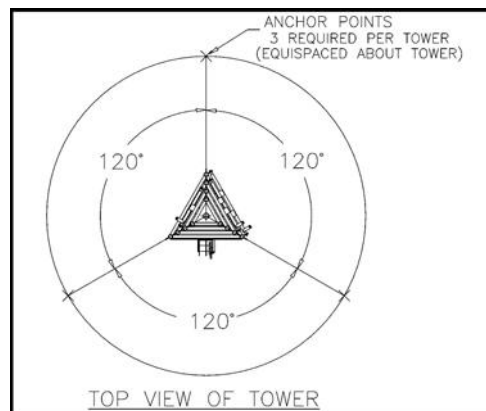
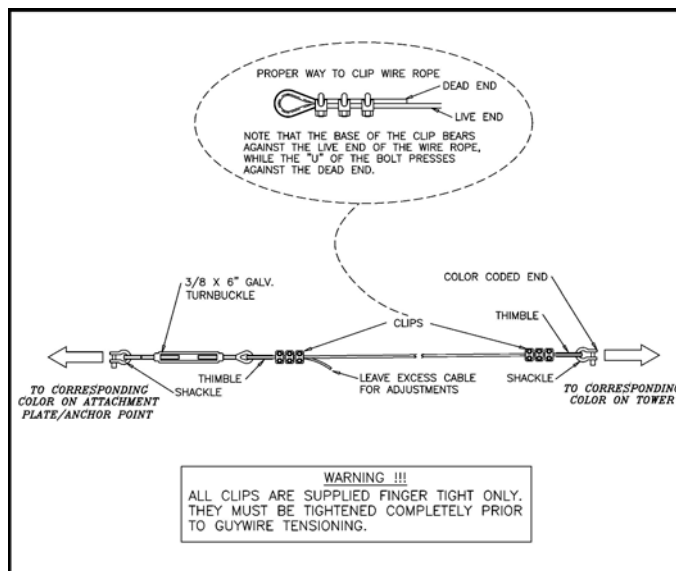

Fig. 4 Standard Guy Wire Anchor Points
Fig. 6 Proper Guy Wire Configuration
1. Locate the Trailer/Tower unit in a place that will allow the following radius around the tower: 70 foot radius for the T-100H & T-100UGH towers; 60 foot radius for T-85UGH tower; 55 foot radius for the T-75H tower; and a 40 foot radius for the T-50H tower. Mark the location (120 degrees apart) of each anchor point (*see Fig. 4*). Refer to the enclosed appropriate guy wire drawing specifications for your specific model. As an alternate, the Model GA-1 or GA-2 helical screw type guy anchors or CGA-1680 concrete type ground anchors can be used.
5. Attach the color coded ends of the guy wires to the corresponding color coded guy ears at the top of each section of the tower, using the screw pin shackle (*see Fig. 6*). Be sure to tighten the screw pin shackle with a wrench. Lay the appropriate sets of three each guy wires in the general direction to which they will be anchored. (*see Fig. 4*). See below if ***"Erecting the Tower at Less Than Full Height"***.
Attach the blue color coded ends of the guy wires to the corresponding blue color coded guy ears at the top of the bottom section of the tower. Attach the **yellow** color coded ends of the guy wires to the **red** color coded guy ears at the top of the top section of the tower, using the screw pin shackle (*see Fig. 6*). Be sure to tighten the screw pin shackle with a wrench. Lay the appropriate sets of three each guy wires in the general direction to which they will be anchored. **(DO NOT attach guy wires to the middle section of the tower).**
Attach the green color coded ends of the guy wires to the corresponding green color coded guy ears at the top of the bottom section of the tower. Attach the **blue** color coded ends of the guy wires to the **red** color coded guy ears at the top of the top section of the tower, using the screw pin shackle (*see Fig. 6*). Be sure to tighten the screw pin shackle with a wrench. Lay the appropriate sets of three each guy wires in the general direction to which they will be anchored. **(DO NOT attach guy wires to the middle section of the tower).**